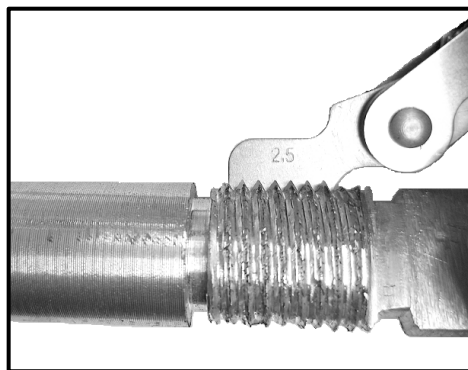

FIGURE 4.6
4.6 Which ONE of the following statements describes the process shown in FIGURE 4.6 below?